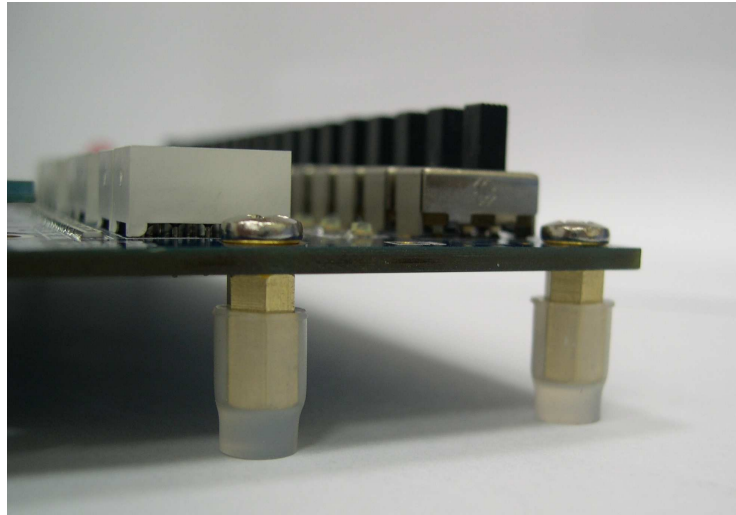

Figure 1.2 The Rubber Feet Set
- ✓ Assemble a screw, a copper stand, and a rubber (silicon) cover as shown in Figure 1.2 for each of the 6 screw holes on DE2.